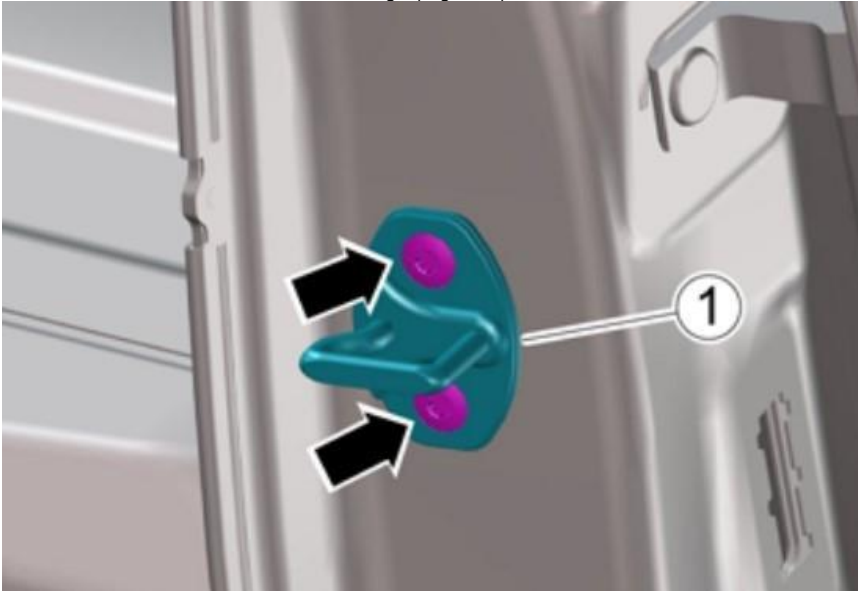

Figure 2
- Loosen but do not remove the fixings (Figure 2)